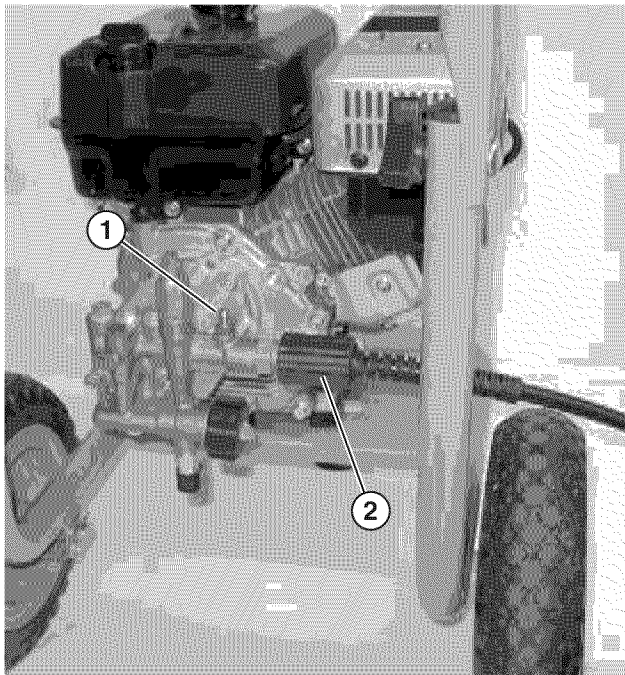

Figure 25 – Installing High-Pressure Hose – WP3000Z
12. Connect the high-pressure hose to the pump and tighten the hose fitting (see Figure 25). Do not overtighten. The fitting only needs to be hand-tight.
13. Connect the soap hose to the barbed fitting if you are going to be using soap (see Figure 25).